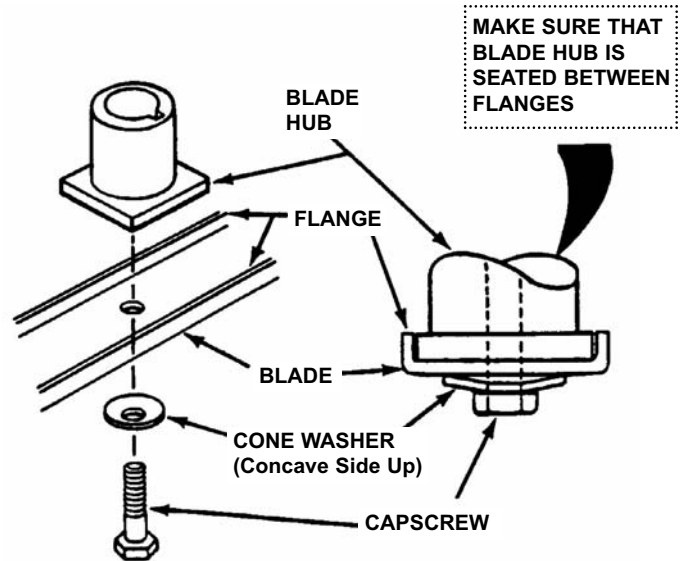

FIGURE 4.2
3. Remove blade. See Figure 4.2.
6. Reinstall blade. See Figure 4.2. Check torque of blade retaining cap screw. Recommended torque should be 40 ft. lbs.